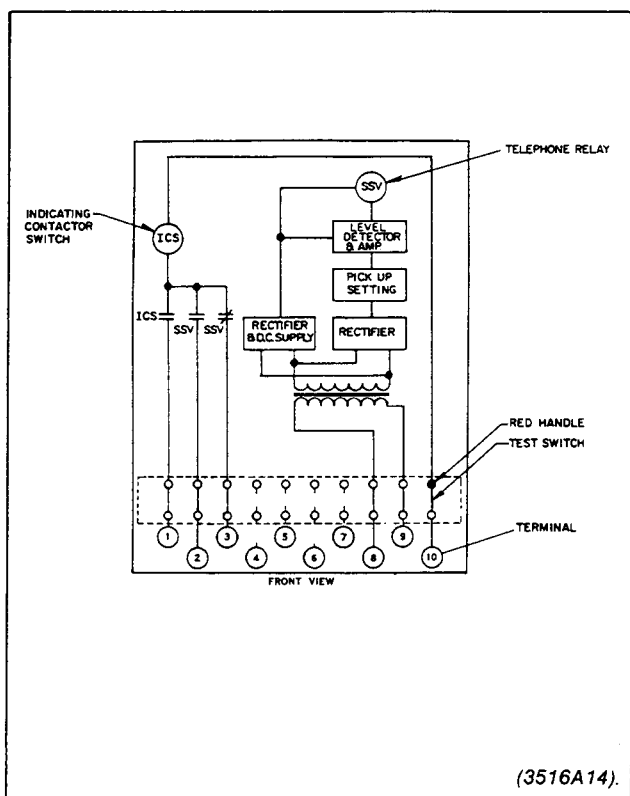
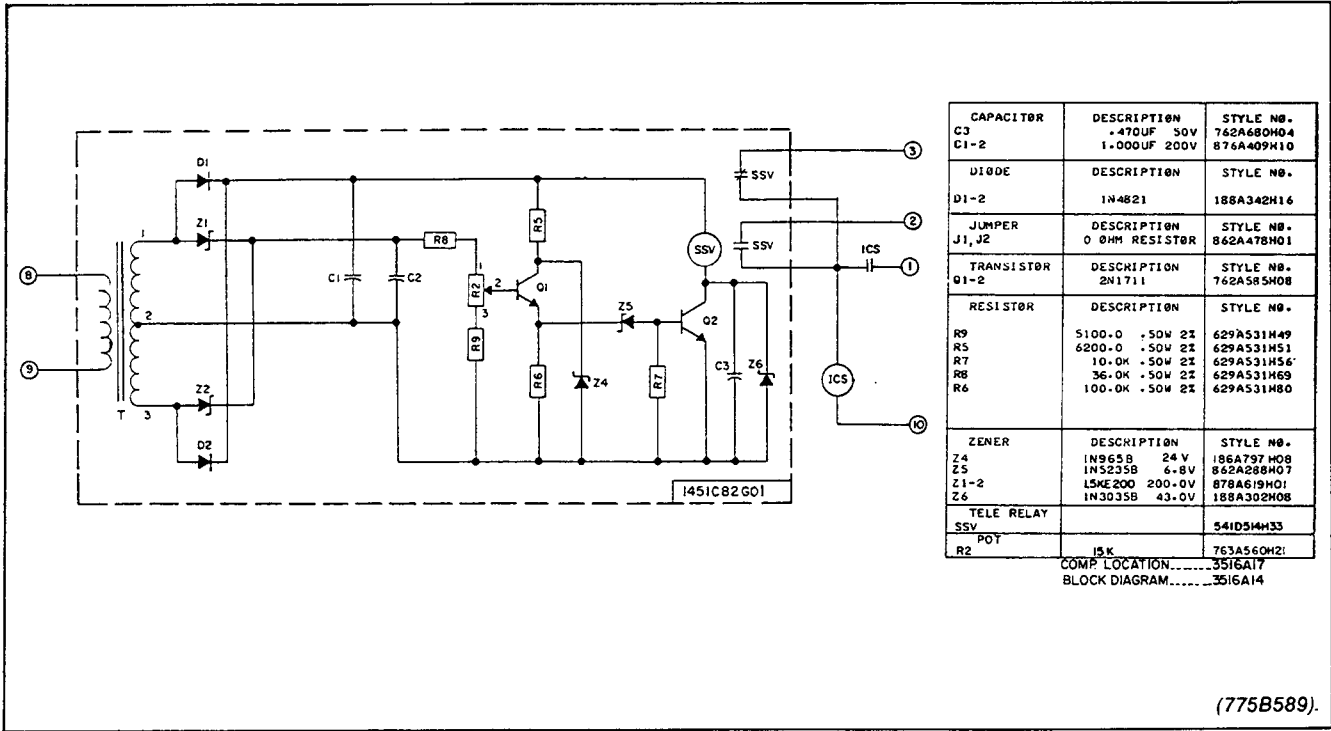

Fig. 1. Block Diagram of the Type SSV-T Relay in the Type FT-11 Case
Fig. 4. Internal Schematic of the Type SSV-T Relay
The components are connected as shown in Fig. 4, 5, and 6.
The block diagrams of the SSV-T and SSC-T are shown in Fig. 1, 2, and 3 and the internal schematic are shown in Fig. 4, 5, and 6. For overvoltage and overcurrent application, the transistor Q2 is normally not conducting and the telephone relay is deenergized. The transistor Q1 is used as an emitter follower. When ac voltage or current is applied to the primary of the transformer (T) a voltage is produced on the secondary side that is proportional to the input. The potentiometer (R2) is for the pick-up setting. If the voltage from rectifier (Z1, Z2, and C2) is large enough to exceed the breakdown voltage of zener diode Z5, the zener diode conducts to turn on the transistor Q2 and operate the telephone relay.